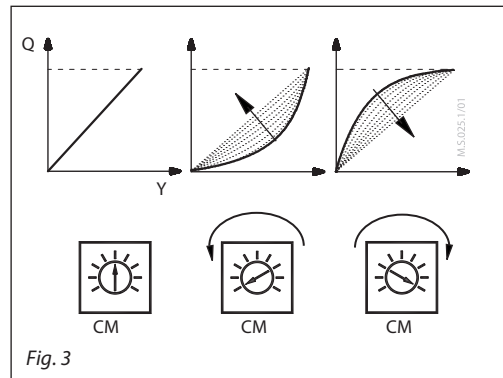

Fig. 3
**DIP4: LIN/MDF – Characteristic modification function** (Fig. 3):